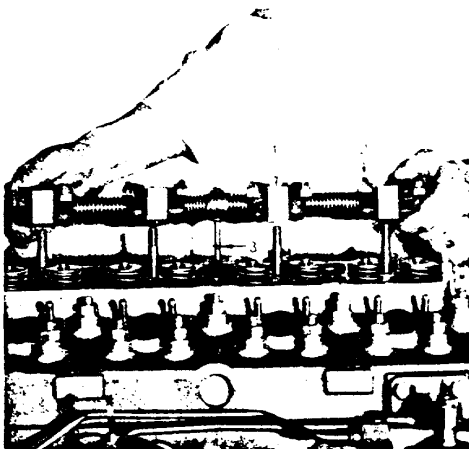

Fig. E.2.
15. Remove the four rocker bracket securing nuts and washers, and remove the rocker assembly from the cylinder head (see Fig E.2). Remove the push rods.
2. Refit the support brackets, springs, and rocker levers to the shaft in the order shown in Fig. E.2. The support brackets are interchangeable and when fitting them ensure that the securing stud holes are to the right viewing the shaft from the front end, with each pair of rockers inclined away from each other at the valve end.